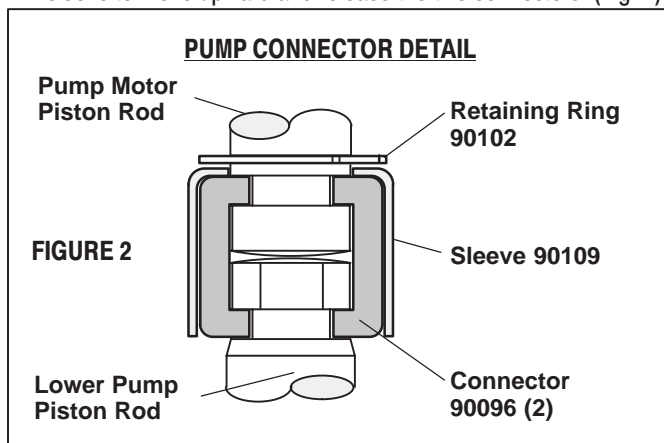

FIGURE 2
- Using e-ring pliers, slide the retaining ring up far enough to allow the sleeve to move upward and release the two connectors. (Fig. 2)